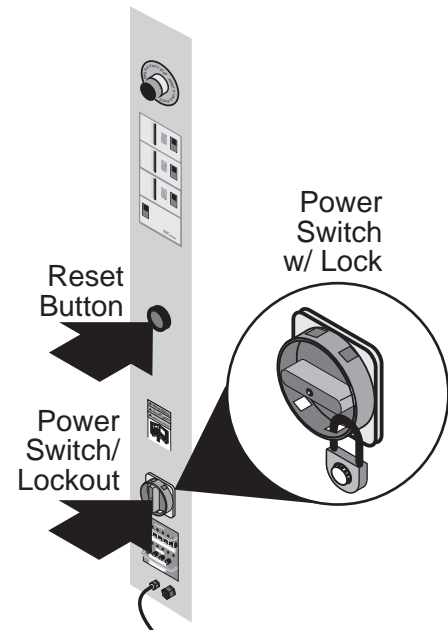

Figure 1-4: Machine Reset Button
2. Press the main machine reset button above the power switch on the back of the machine. See Figure 1-4: Machine Reset Button.